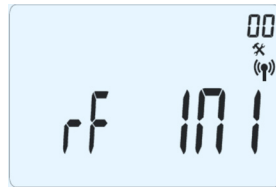

Fig. 25
- 1) *press and hold down the edit button () for 5 sec. The screen for the first parameter will appear and will be displayed as in Fig. 25.*